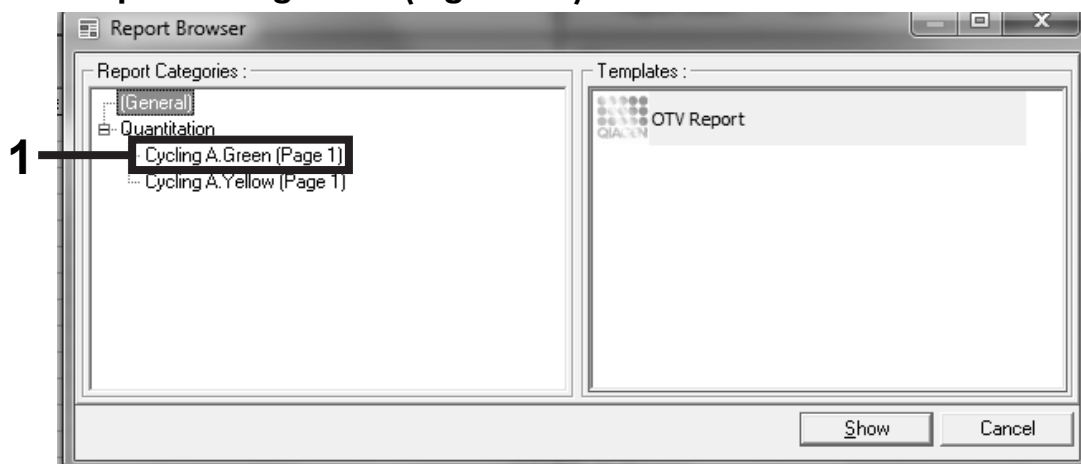

Figure 13. Report browser.
17. In the report browser, click “Cycling A Green (page 1)” under “Report Categories” (Figure 13).